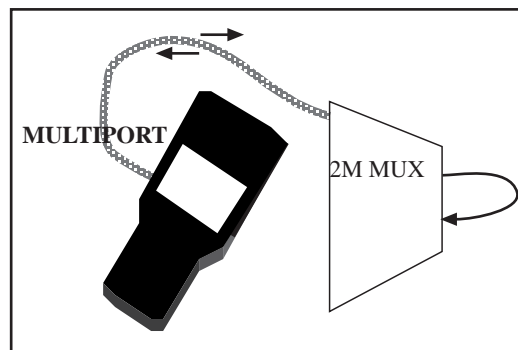

Figure 146 Testing the Datacom Port of a 2M Multiplex
4) Connect the test set to the circuit as shown in Figure 146.